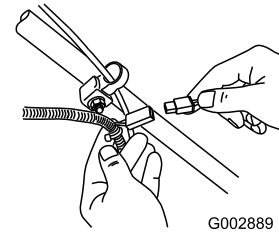

Figure 20
- Connect the charger to the mower wire harness located below the ignition key (Figure 20).